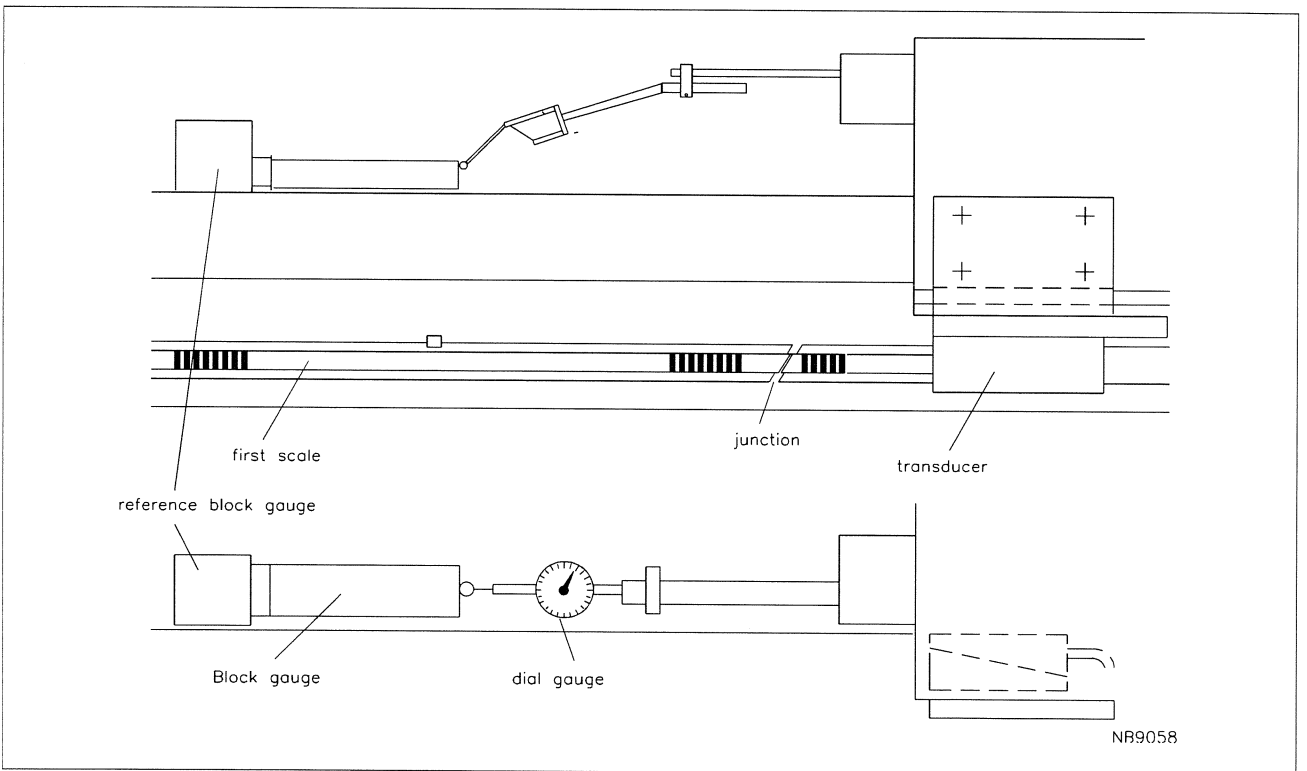

Fig. 30 Final adjustment using block gauges
Attach a reference block gauge to the machine-tool guide-way at a convenient point which will enable the position of the slide to be measured (by a dial gauge mounted on the slide) relative to the block gauge. The slide should be in such a position that the transducer is just to the left of the junction. (figure 30).
- Move the slide to the left until the dial gauge makes contact with the end of the second block gauge and reads zero (see figure 30).
See figure 30.